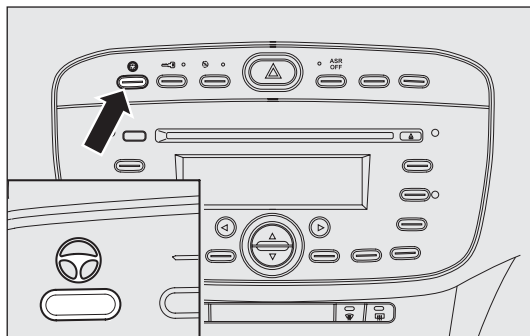

fig. 117
- ☐ the word CITY lit up on the button after it has been pressed fig. 117.